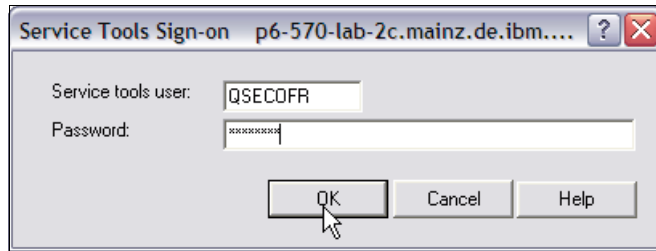

Figure 11-16 SST Sign-on
4. In the Service Tools Sign-on window (Figure 11-16), enter your Service tools ID and password. Then click **OK**.